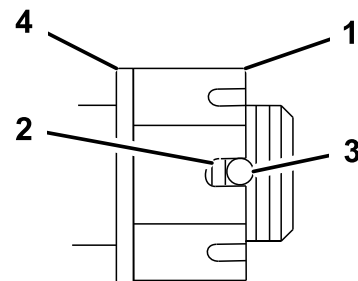

Figure 51
4. Torque the slotted nut to 170 N·m (125 ft-lb) (Figure 51).
5. Check the distance from bottom of slot in nut to inside edge of hole. 2 threads or less should be showing (Figure 51).
7. Torque the slotted nut to 170 N·m (125 ft-lb) (Figure 51).
8. Tighten the nut until the next set of slots line up with the hole in the shaft (Figure 51).